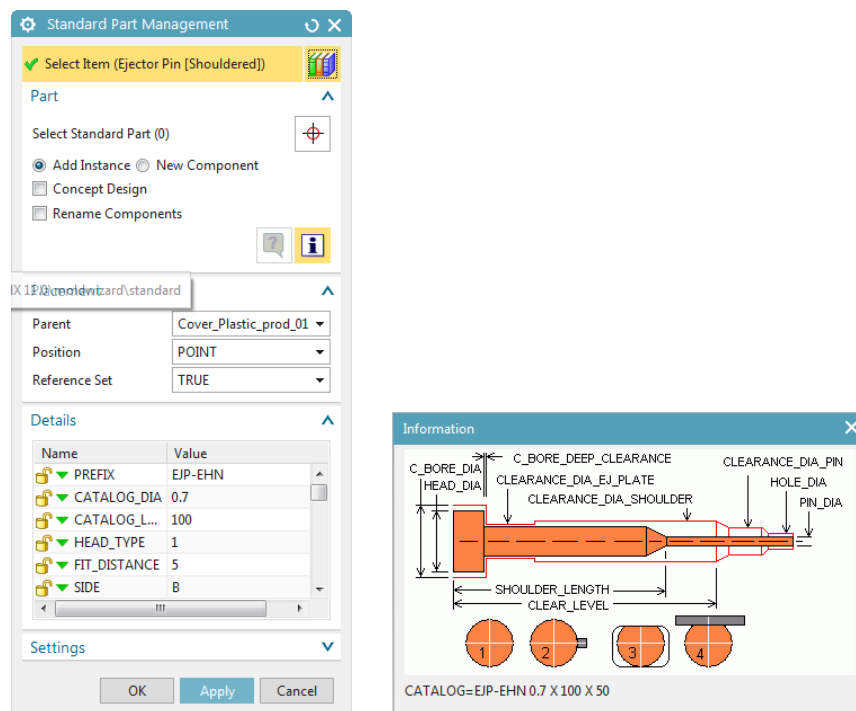

Figure 16-121 The **Standard Part Management** dialog box and the **Information** window
2. Double-click on the **Ejector Pin[Shouldered]** in the **Member Select** panel; the **Standard Part Management** dialog box is displayed with the **Information** window, refer to Figure 16-121.